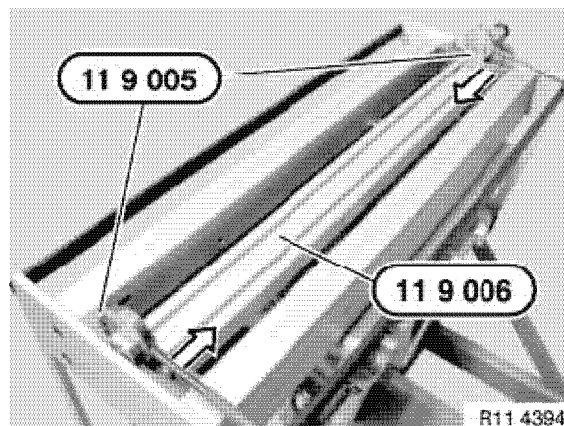

Figure 5-21
3. Insert special tool OEM No. 11 9 006 and lock with special tool OEM No. 11 9 005 in direction of the arrows (Figure 5-21).